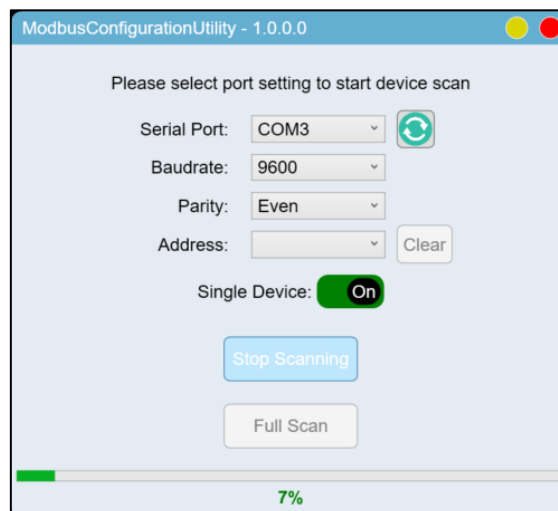

Figure 5 - Scan in Progress
6. Click **[Back]** again to return to Figure 5 (Device Scan page). Change the Baud Rate, Parity and Address settings on the page to match the device settings. Repeat the scan. If the device can be found with the updated settings, then the updated settings have taken effect and device configuration is complete. The device may now be deployed into its production environment.